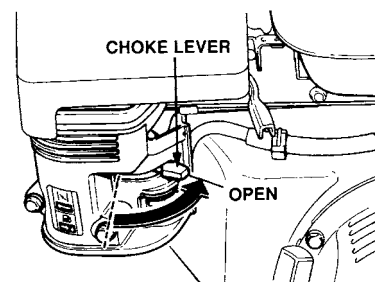

Figure 12. Engine Choke Lever (Open)
- Place the choke lever (Figure 12) in the **OPEN** position if starting a warm engine or the temperature is warm.
8. Make sure the choke lever is in the OPEN position (Figure 12) before operating the power buggy. Before the buggy is placed into operation, run the engine for several minutes. Check for fuel leaks, and noises that would associate with a loose guard or cover.
3. Turn the ignition switch (Figure 12) to the **OFF** position.